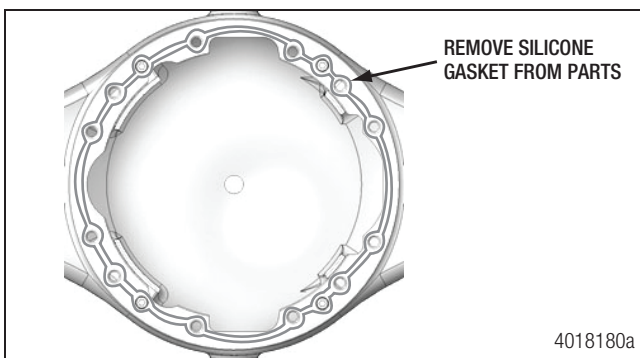

Figure 1
1. Remove all old gasket material from both surfaces. Figure 1.